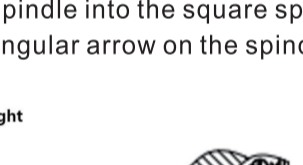

FIG 4B
- 3) Adjust the handle to the desired direction for door usage (left or right opening) (see figure 4B/C), then tighten the bolts.